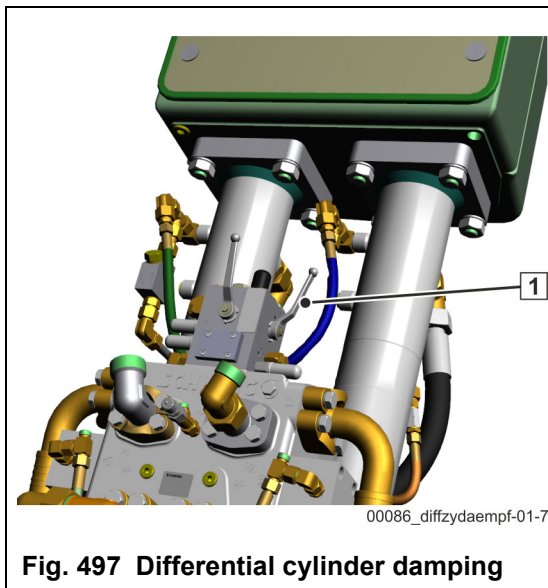

Fig. 497 Differential cylinder damping
The second ball valve (1) (**Fig. 497**) provides extra damping for the differential cylinders in addition to the MPS (Mini Pause Switch).